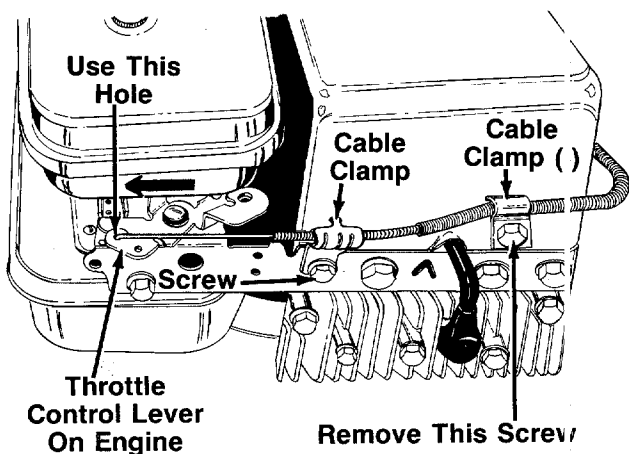

FIGURE 8.
13. Using a 7/16" wrench, remove the screw on the engine shown in figure 8.
14. Remove the screw on the cable clamp shown in figure 8. Slip the control casing under the clamp. Replace the screw, but do not tighten (cable must still move freely beneath the clamp).
15. Push the throttle control lever on the engine to the full open position (as far toward the outside of the unit as it will go) as shown in figure 8. Tighten the screw to secure the throttle control cable in this position.